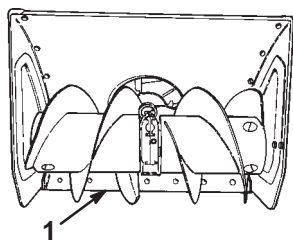

Figure 9
2. Move the snowthrower to a flat surface and ensure that the scraper (Fig. 9) is parallel to the ground. If it is not, adjust the scraper; refer to Adjusting the Skids and the Scraper on page 20.